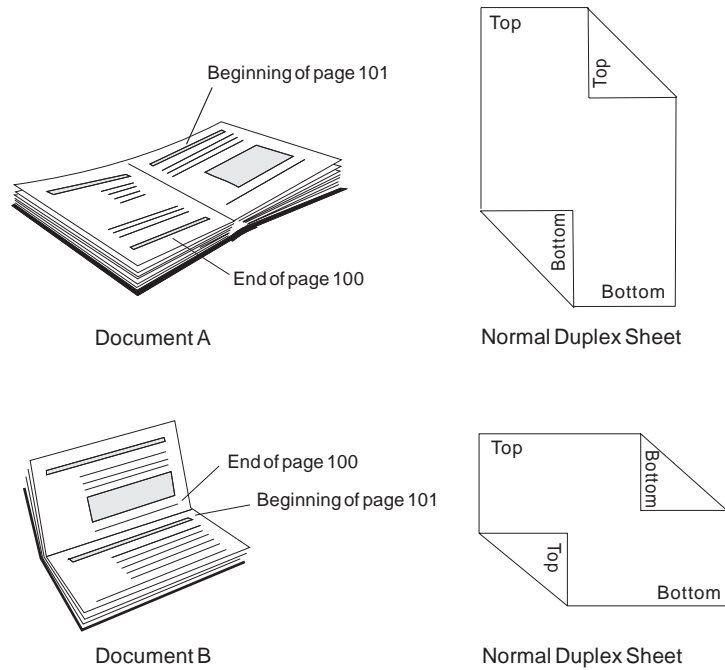

Figure 28. Duplex Documents A and B, Specified as Normal Duplex
- If the sheets are to be bound on the long edge of the paper, as Document A and Document B are in Figure 28 on page 75, specify *normal duplex*.
Figure 28 shows Document A and Document B printed with normal duplex. Notice that the pages are printed in the *portrait position* for Document A and in the *landscape position* for Document B.